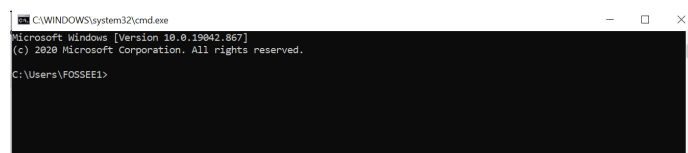

Figure 3.8: Command Prompt on Windows
1. Launch the Command Prompt. Press the Windows key+R together. A window, as shown in Fig. 3.7 appears. In the text box adjacent to **Open**, type **cmd**, and press Enter. The Command Prompt, as shown in Fig. 3.8 appears. By default, it points to the home directory.